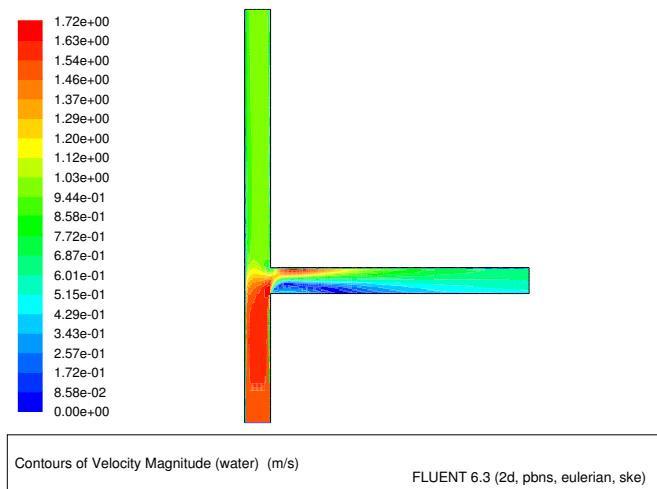

Figure 19.7: Contours of Water Velocity Magnitude
2. Display contours of velocity magnitude for water (Figure 19.7).